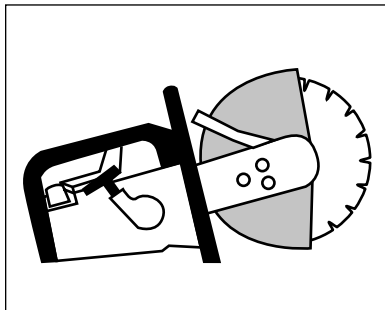

Figure 24. Cut-off saw
- *Power Saws (Diamond Blade or Abrasive Blade).* (Figure 24) They are very fast and provide precision cutting and excellent mobility. However, they are very dusty. They are normally gas powered, with engines similar to those used for chain saws.